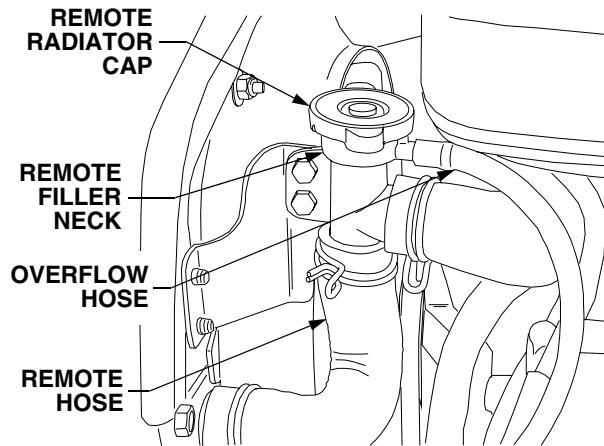

Figure 56
- Turn the remote radiator cap counterclockwise to the first stop to release any pressure. See Figure 56.
- Turn the remote radiator cap counterclockwise to the first stop, then push downward on the cap and turn counterclockwise to remove. Refer to Figure 56.